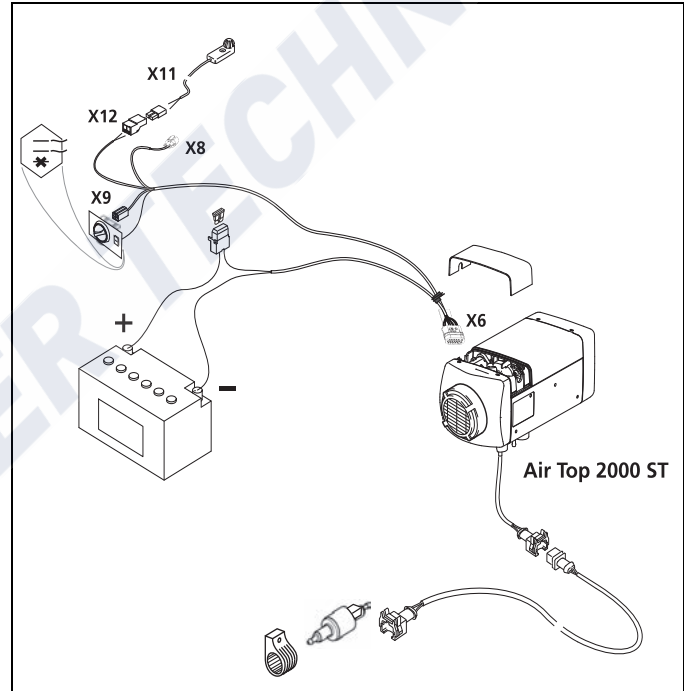
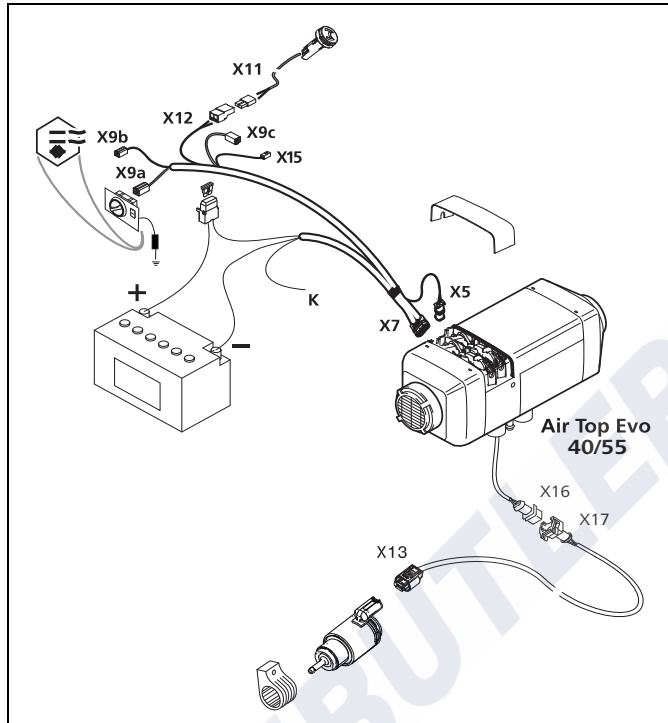

Fig. 32 Wiring harness Air Top 2000 STC
Fig. 33 Wiring harness Air Top Evo 40 / Air Top Evo 55
Fig. 32 and Fig. 33 show the wiring harnesses for Air Top 2000 STC and Air Top Evo 40 / Air Top Evo 55
- The wiring harness for the Air Top Evo 40 / Air Top Evo 55 includes cable K (Fig. 33, colour rt/sw) for optional control of a battery disconnector or an additional operating indicator.